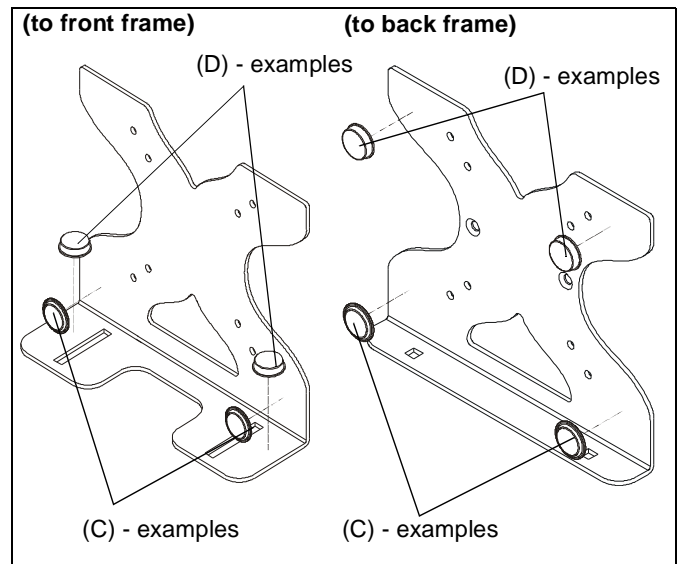

Figure 7
- (Optional) Use thin and thick bumpers (C and D) as desired to provide extra protection within frame. (See Figure 7)